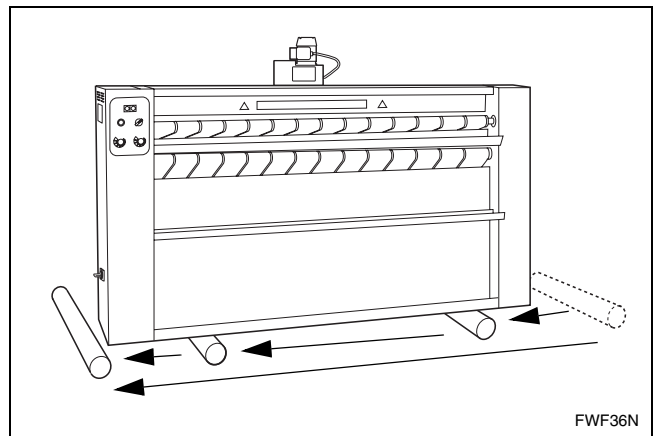

Figure 6
7. Slowly roll the finisher forward. Refer to *Figure 6*.